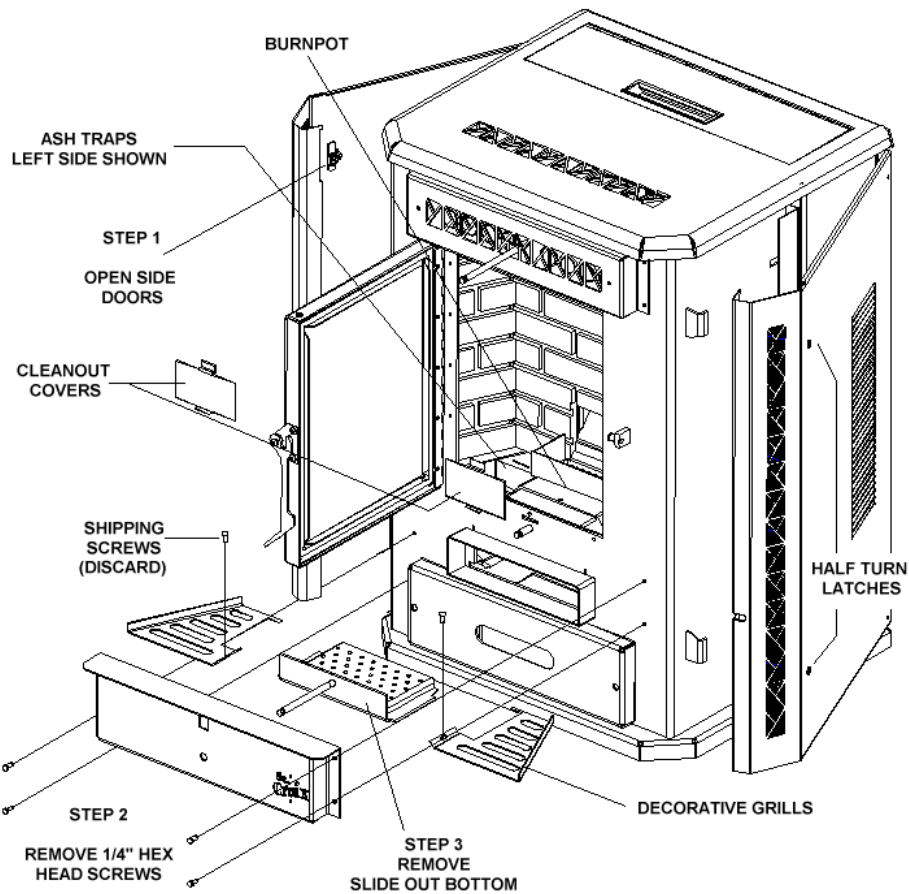

Figure 9
To remove the Burnpot from the stove, the Coal Rake must be pulled back so the pot will clear it. Open the Firebox door of the stove and you will see 2 Hex head screws. Follow steps 1 through 4 in figure 8 to remove the Burnpot from the stove. To remove the Slide-out Bottom follow steps 1 through 3 in figure 9.
3. **Clean-Out Ports/Ash Traps.** The stove has 2 Exhaust Cleanout Ports located in the LEFT AND RIGHT lower corners of the firebox. Left Cleanout/Ash Trap Cover shown in figure 9. To access the Ash Traps, first remove the shipping screws that hold the Decorative Grills in place. These screws may be discarded at this point. Remove Decorative Grills. Remove Cleanout Covers and clean Ash Traps regularly with a vacuum.
1. **Spring Shutdown.** After the last burn in the spring, cool the stove. Remove all corn from the hopper and the auger. Thoroughly clean the burn pot, burn pot box, ash pan and ash traps behind the ash pan. (To locate the ash traps see figure 9 on page 16)